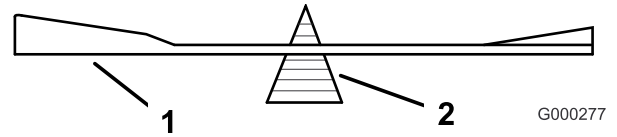
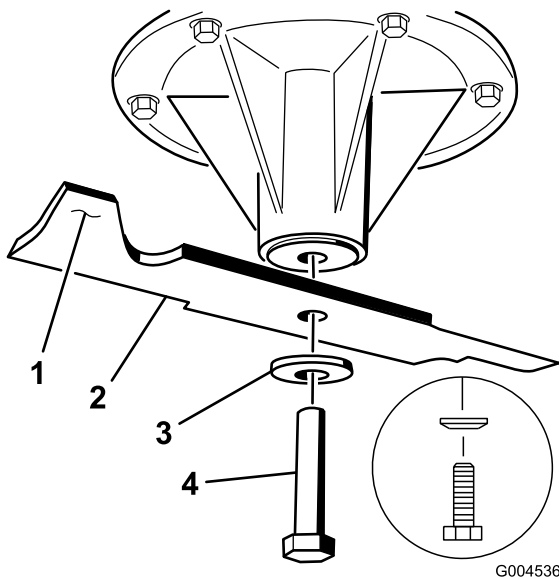

Figure 101
Figure 102
2. Check the balance of the blade by putting it on a blade balancer (Figure 101). If the blade stays in a horizontal position, the blade is balanced and can be used. If the blade is not balanced, file some metal off the end of the sail area only (Figure 102). Repeat this procedure until the blade is balanced.
1. Install the left and center blades, curved washers, and blade bolts to the spindle shafts (Figure 102 and Figure 103).
Note: Ensure the curved-washer cone is installed towards the bolt head (Figure 102).
2. Install the right blade, curved washer, and blade bolt (left-hand threaded bolt) to the spindle shaft (Figure 102 and Figure 103).